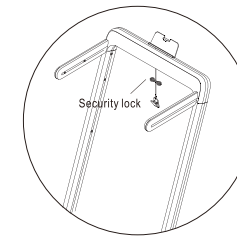
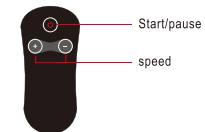

figure 1
figure 2
Bent your knees slightly and slowly bend your body to relax your back and shoulders. And try to touch your toes with your hands. Hold for 10-15 seconds, then relax. Repeat three times (see figure 1)
Sit on a clean seat cushion and straighten one leg. Bring the other leg in close to the inside of the leg. Try to touch your toes with your hands. Hold for 10-15 seconds, then relax. Repeat with each leg three times (see figure 2)
2. Hold the remote control and aim it at the display window of the treadmill (as shown in FIG. 2) within 10 seconds after unplug the treadmill security lock (as shown in FIG. 1). Meanwhile, press the start/pause button on the remote control for about 3 seconds, and the system will sounds "didi...", indicating that the remote control and treadmill have been successfully paired, and the remote control can be used to control the treadmill normally.